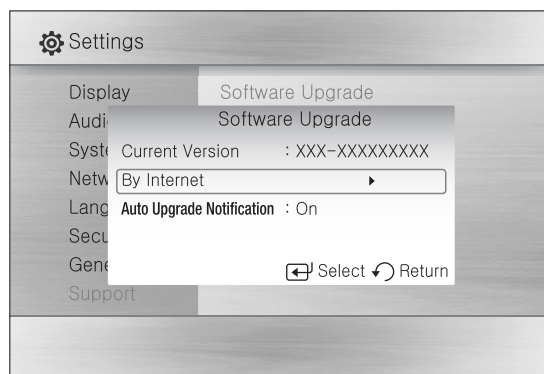

Fig. 4-15
- 4) Press [Enter] on BY INTERNET and the Blu-ray Disc player will search online for the most recent firmware update. (see Fig. 4-15)